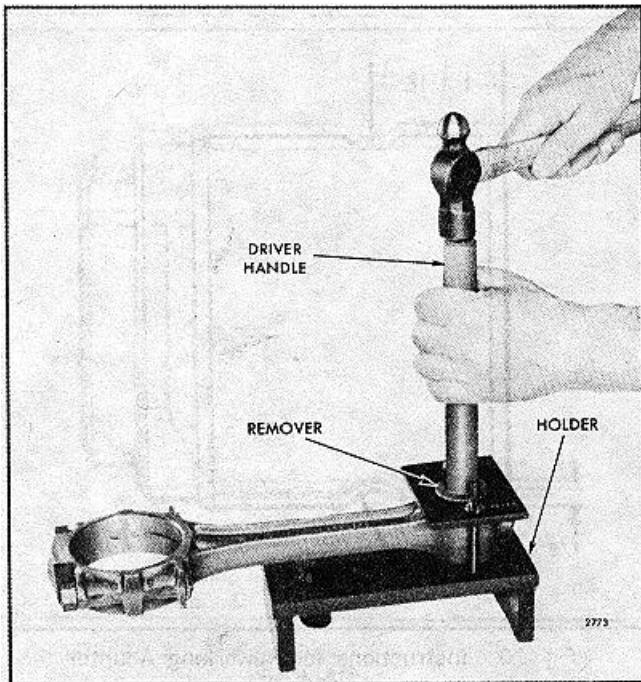

FIG. 6 - Removing or Installing Bushings
1. Clamp the upper end of the connecting rod in holder J 7632 (Fig. 6) so that the bore in the bushings is aligned with the hole in the base of the holder.
1. Clamp the upper end of the connecting rod assembly in holder J 7632 so that the bore for the bushings aligns with the hole in the base of the tool (Fig. 6).